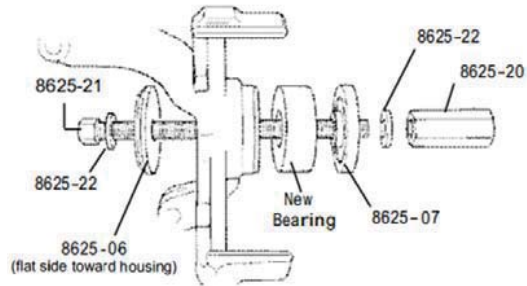

Figure 3
4. Lightly lubricate the new bearing, and position it for installation with the tool components assembled as shown in Figure 3.